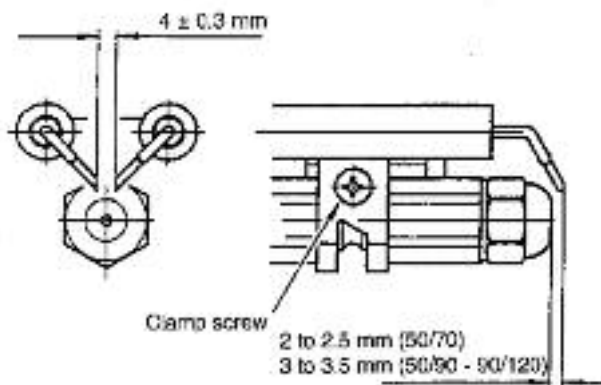

Fig 26 (50/90 RDB shown)
**Check the electrode settings** - Electrode tips approximately 4 mm apart and 2 to 2.5 mm (50/70) or 3 to 3.5 (50/90 and 90/120) in front of the nozzle, see Fig. 26.
With the combustion head removed, loosen the electrode assembly clamp screw and slide the electrodes away from the nozzle. Remove the nozzle using a good fitting spanner (16 mm). The use of an ill-fitting spanner will damage the nozzle and could lead to an incorrect flame pattern. Always check the electrode settings after replacing the nozzle, see Fig. 26.